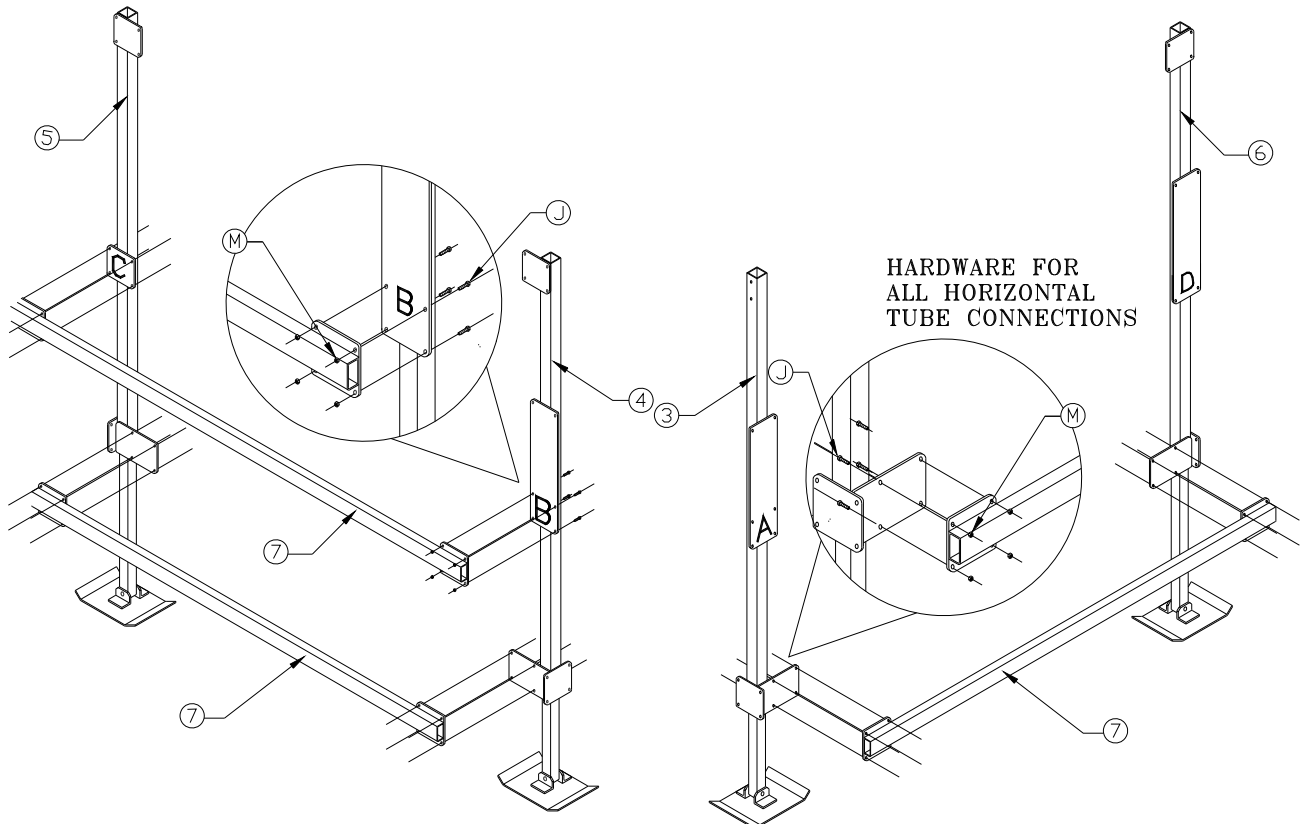

Figure 3-4
1. Refer to Figure 3-4. Fasten a pair of short horizontal tubes between vertical legs A and D with hardware shown. **DO NOT TIGHTEN.**
5. Fasten a long horizontal tube across each end to connect the two sides using hardware shown in Figure 3-4. DO NOT TIGHTEN.